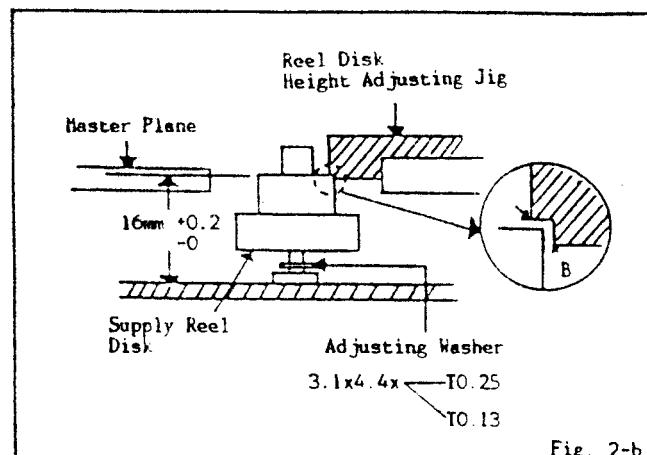

Fig. 2-b
- Set the master plane (JG022) at mechanism framework, taking care not to scratch the drum, as shown in Fig. 2-a.
2. Confirm that the master plane (JG022) sits between A and B, as shown in Fig. 2-b, using the reel table height chip (JG024). In case it is beyond the range of set-up value, adjust it by the height adjusting washer, making up-down play within 0.1~0.5mm.